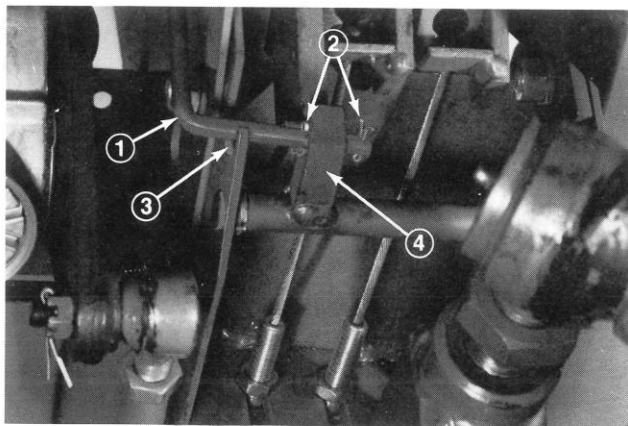

Figure 2
3. Install cotter pin (3/32 x 1/2 in. - 2.4 x 13 mm) through hole at top of parking brake rod. Install another cotter pin (3/32 x 1/2 in. - 2.4 x 13 mm) through inside hole at L-shaped end of brake rod (Fig. 2). Slide top of rod up the steering tower and bottom of rod between cutout in brake mount and through hole in parking brake latch (Fig. 2). Install remaining cotter pin through end of rod.